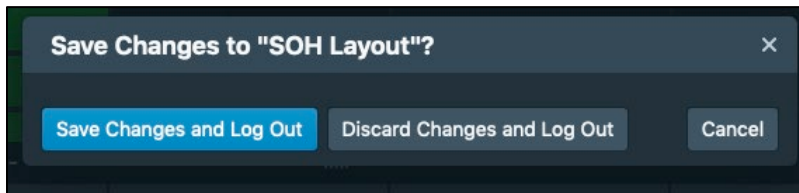

Figure 8. Log Out Menu Options.
- 9) Log Out – Logs the user out of the SOH UI. If any changes were made to the open workspace layout, the user will be prompted to save or discard the changes before logging out (see Figure 8). A tooltip providing a brief description of each option can be brought up by hovering the cursor over the desired option.